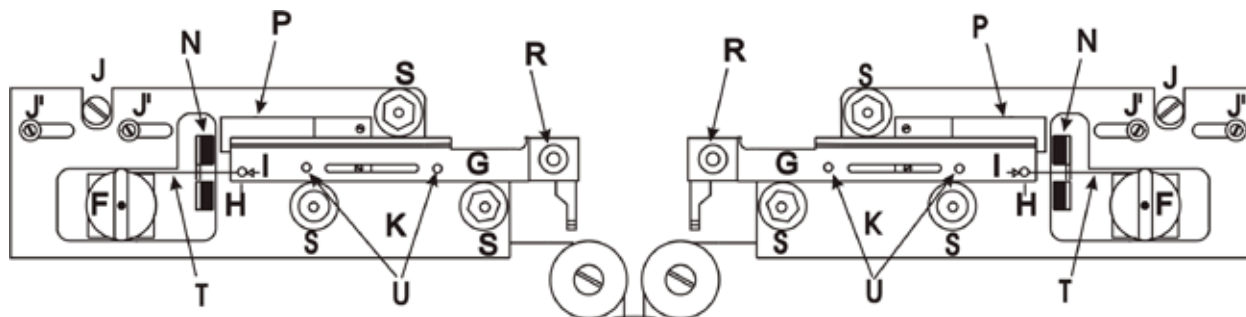

Figure 1-5. Upper cable pulley assembly.
This assembly guides the **Pulling Cables (T in Figure 1-5)** from the **Puller Bars (G in Figure 1-5)** to the centrally located (and concealed) **Lower Cable Pulley Assembly**. Note that the **Upper Cable Pulley Assembly** is attached to its panel by two screws, in slots (**J’ in Figure 1-5**), and contains a large eccentric adjustment screw (**J in Figure 1-5**). This eccentric screw is used to adjust cable ‘tension’. Its use is covered in the Maintenance Section, and changes to the settings should not be performed without the supervision of Sutter Instrument Technical Support.
(K in Figure 1-5)
(N in Figure 1-5)
(P in Figure 1-5)
(G in Figure 1-5)
(S in Figure 1-5)
(T in Figure 1-5)
**Mounting (U in Figure 1-5)** be used.